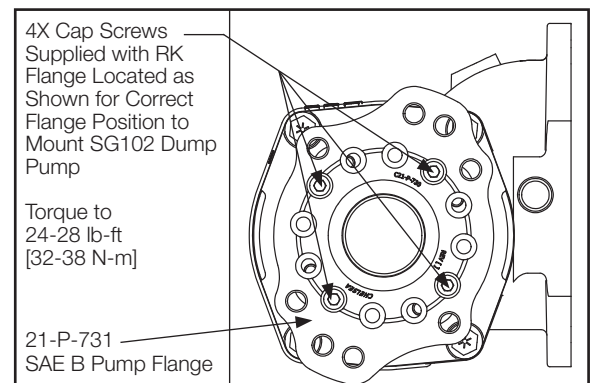

Figure 8
2. For proper pump orientation with pump support brackets, please note the angle of RK output pump flange (**Fig. 8**).